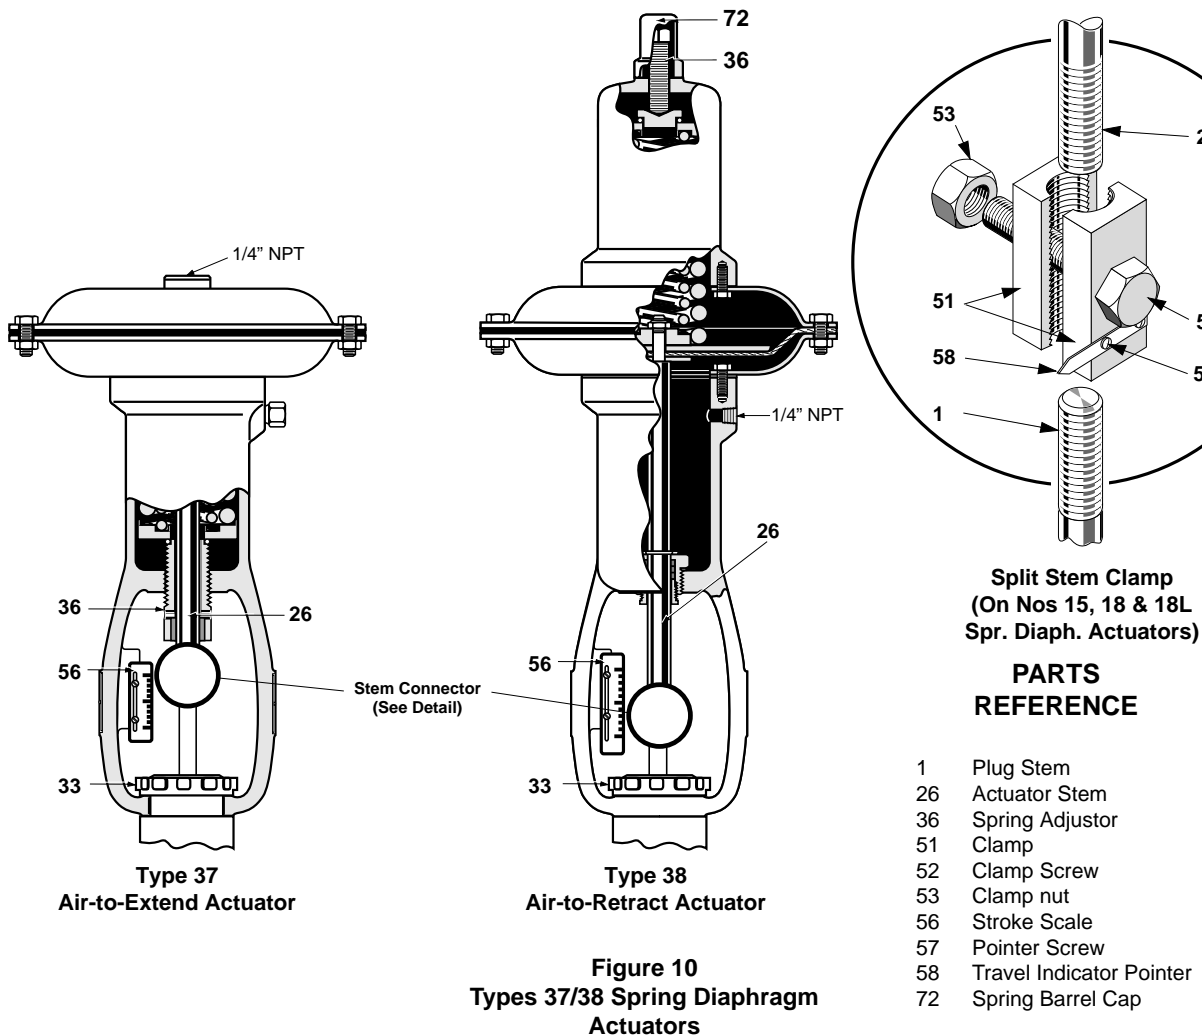

Figure 10
10.1 Actuator removal (see Figure 10)
10.3 Actuator assembly and adjustment (see Figure 10)